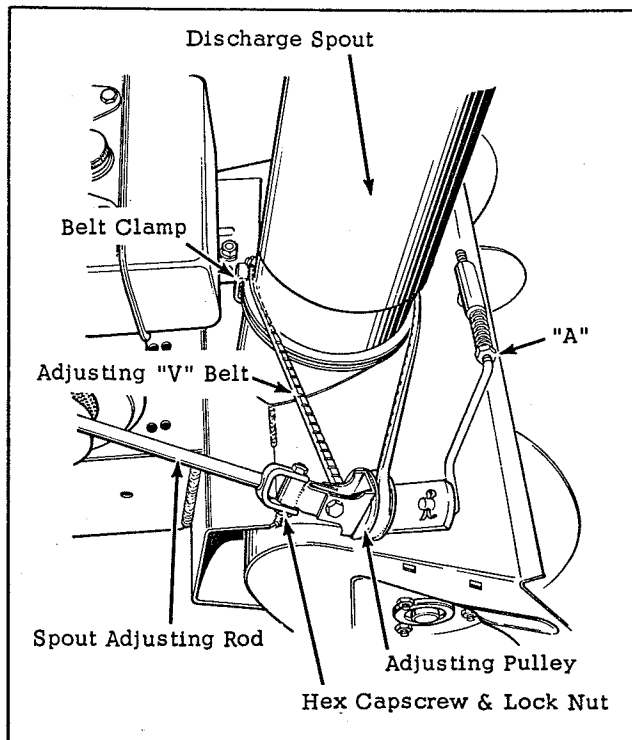

Fig. 4
5. Apply a coating of light oil to the neck of the discharge spout mounting collar, and install the spout in place on the rotor housing as shown in Figure 4. The application of oil is necessary to prevent rust and to allow the spout to rotate freely.
Clamp the "V" belt around the spout as shown in Figure 4, and loop the belt around the adjusting pulley. Connect the lower end of the spout adjusting handle to the adjusting pulley as shown in Figure 4, using a hex capscrew and lock nut. Adjust the tension of the "V" belt by turning the hex nut at point "A" in Figure 4. Avoid excessive tension.